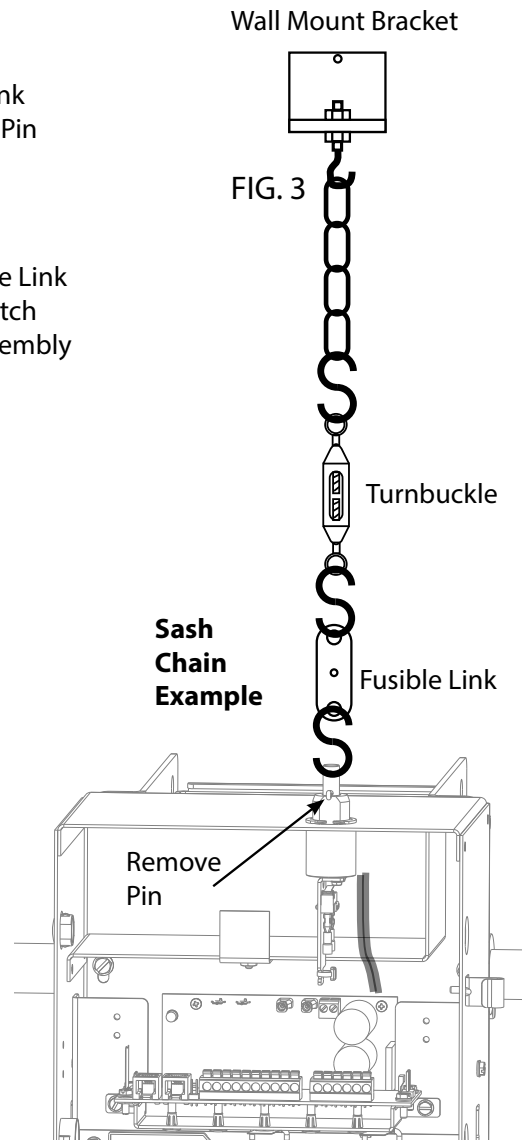

Fig 23
- 5) Follow all recommendations for release chain installation per NFPA 80. Note direction of pull on switch. Fig. 23
- 6) Remove fuse link switch pin to tension chain. Ensure switch holds tension on chain and does not contact internal switch. Fig. 23